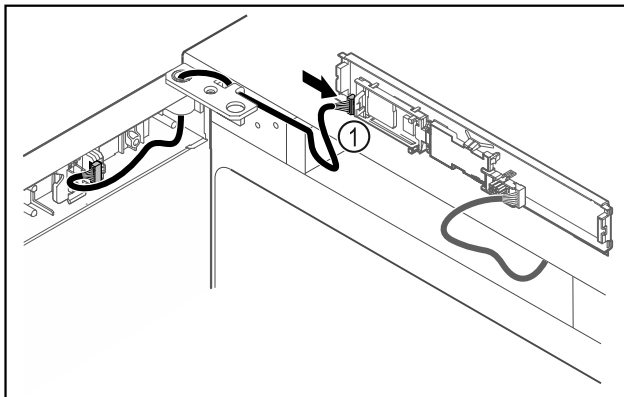

Fig. 39
- ▶ Connect the plug *Fig. 39 (1)* to the circuit board.